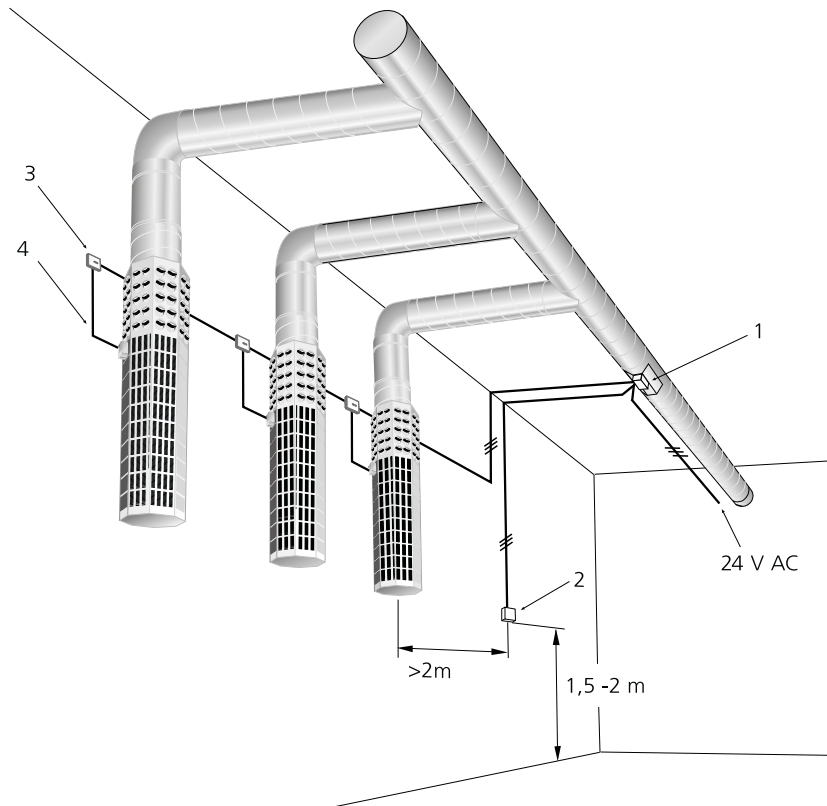

Figure 1. Connecting the VHC to the BOC air diffuser.
temperature sensor must not be exposed to direct sunlight or air flow directly from the supply air diffuser. It is important that the room temperature sensor is installed in a representative position. See Figure 1 and 2.
- Key to figure 1: